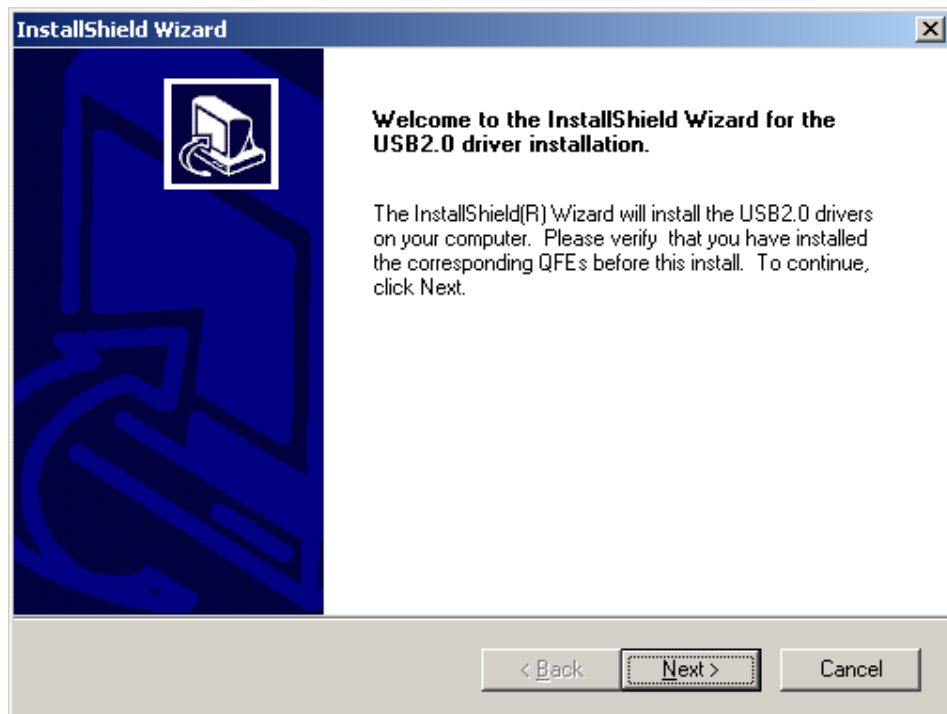

Figure 6-16: USB Driver Welcome
Step 2: The **InstallShield Wizard Welcome** screen appears (Figure 6-16).